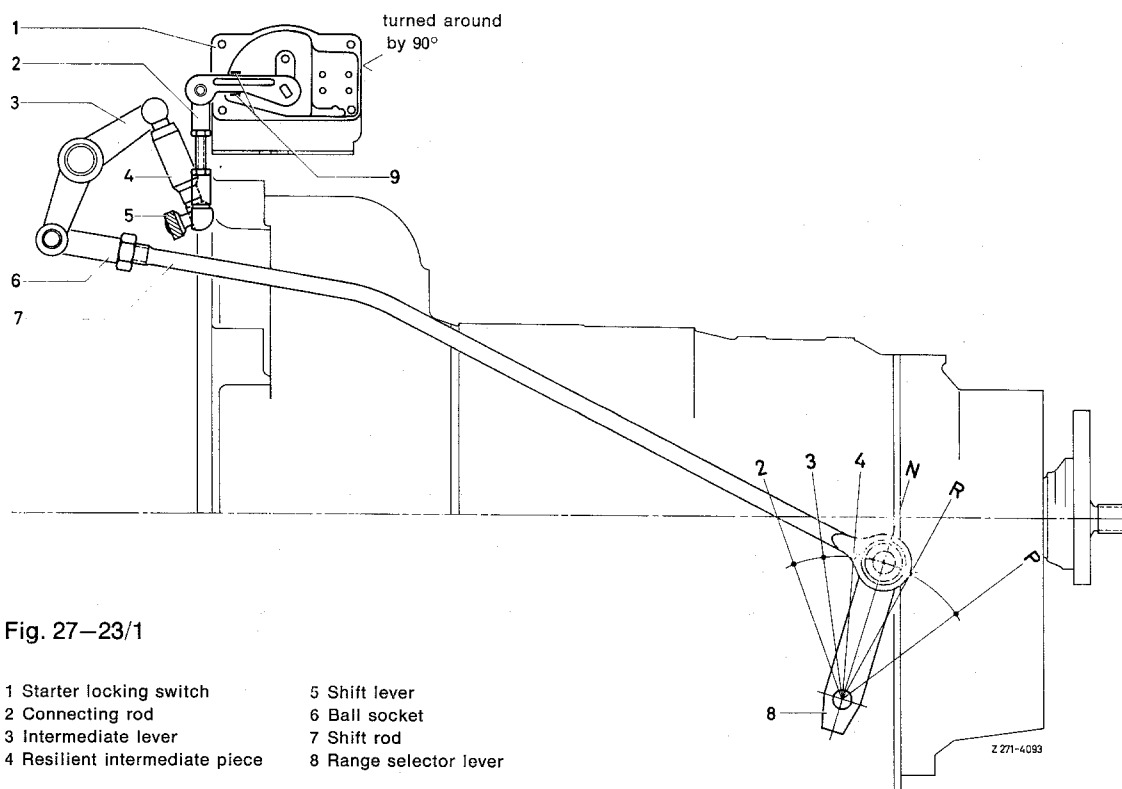

Fig. 27-23/1
selector lever on steering wheel to position "N." Adjust selector rod lengthwise in such a manner that the ball socket is in alignment with the ball head on the intermediate lever (3). Connect selector rod on intermediate lever and tighten counter nut (Fig. 27-23/1).